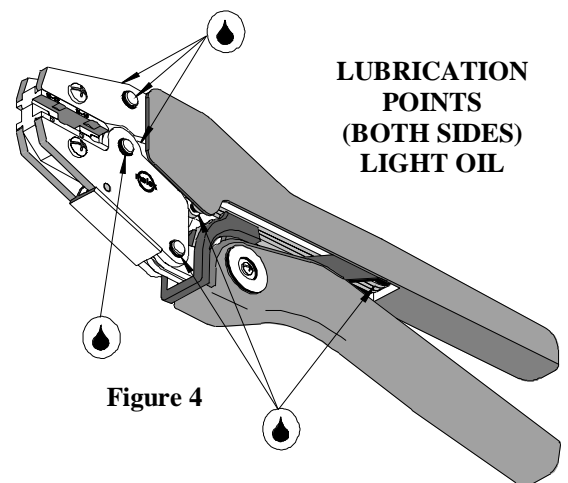

Figure 4
3. Make certain all pins; pivot points and bearing surfaces are protected with a thin coat of high quality machine oil. Do not oil excessively. The 64001-4100 (RHT-FIGG) was engineered for durability, but like any fine piece of equipment, it needs cleaning and lubrication for a maximum service life of trouble-free crimping. A light oil, such as 30 weight automotive oil used at the oil points shown in Figure 4, every 5,000 crimps or 3 months will significantly enhance the tool life and ensure a stable calibration.